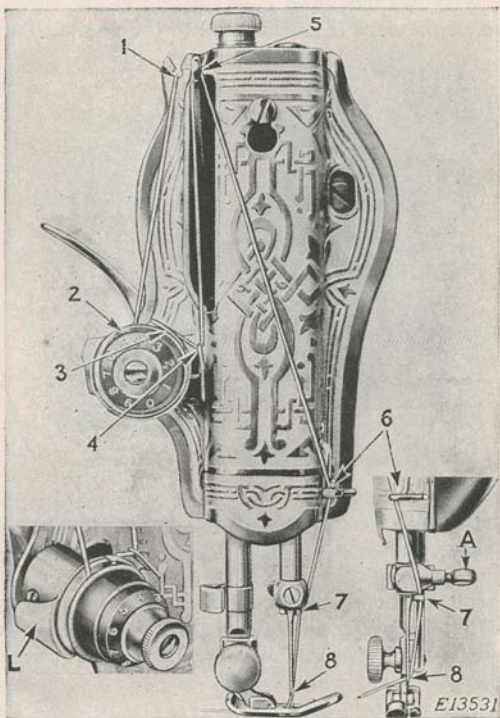
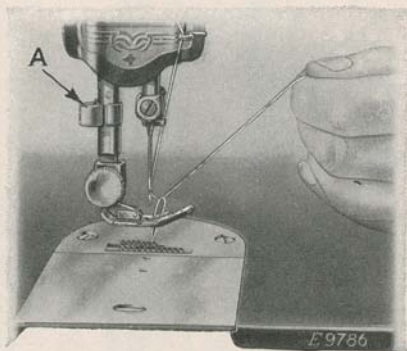

FIG. 12. UPPER THREADING
FIG. 13. DRAWING UP THE BOBBIN THREAD
Turn the balance wheel over toward you until the thread take-up lever (5, Fig. 12) is raised to
(SEE FIG. 12)
Turn the balance wheel over toward you until the thread take-up lever (5) is raised to its highest position. Place the spool of thread on the spool pin at the top of the machine and pass the thread to the left through the thread guide (1) at the rear of the face plate, down, under and from back to front between the tension discs (2), the thread guard (L) guiding the thread between the discs. (See insert in Fig. 12). With the right hand hold the spool to prevent it from turning, and with the left hand draw the thread up into the take-up spring (4) until the thread enters the retaining fork (3), then pass the thread up and from back to front through the hole in the thread take-up lever (5), down through the guide (6) on the face plate, into the guide (7) on the needle clamp and from **right to left** through the eye (8) of the needle.
the balance wheel over toward you until the needle moves down and up again to its highest position, thus catching the bobbin thread. Draw up the needle thread and the bobbin thread will come up with it through the hole in the throat plate, as shown in Fig. 13. Lay both threads back under the presser foot.
Stop the machine with the thread take-up lever (5, Fig. 12) at its highest position, raise the presser foot and draw the fabric back and to the left, pass the threads over the thread cutter (A, Fig. 13) and pull down lightly to sever them. Leave the ends of the threads under the presser foot.